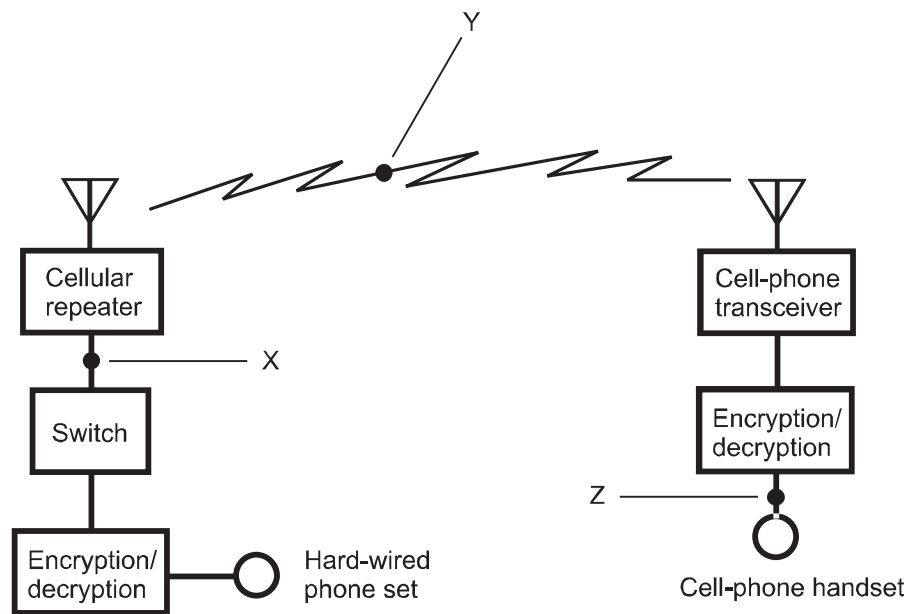

**Fig. Test3-1.** Illustration for Part Three Test Questions 2 through 5.
2. Figure Test3-1 is most likely a spectral diagram of
3. In Fig. Test3-1, X indicates
4. In Fig. Test3-1, Y indicates
5. In Fig. Test3-1, Z indicates